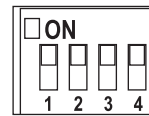

Figure 10a
- **Transmitter:** located on back side of unit. Slide code switches to your choice of up or down position. Factory setting is all up. Do not use this position. With a small screwdriver or ball point pen slide firmly up or down (Figure 10a).